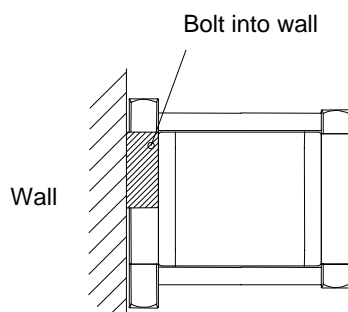

Figure 2. Wall-Mounted Pumps
2. For all mountings, be sure the pump is bolted directly to the mounting surface. Use 5/8" lag screws or bolts for mounting, depending upon the application. See Figure 2.